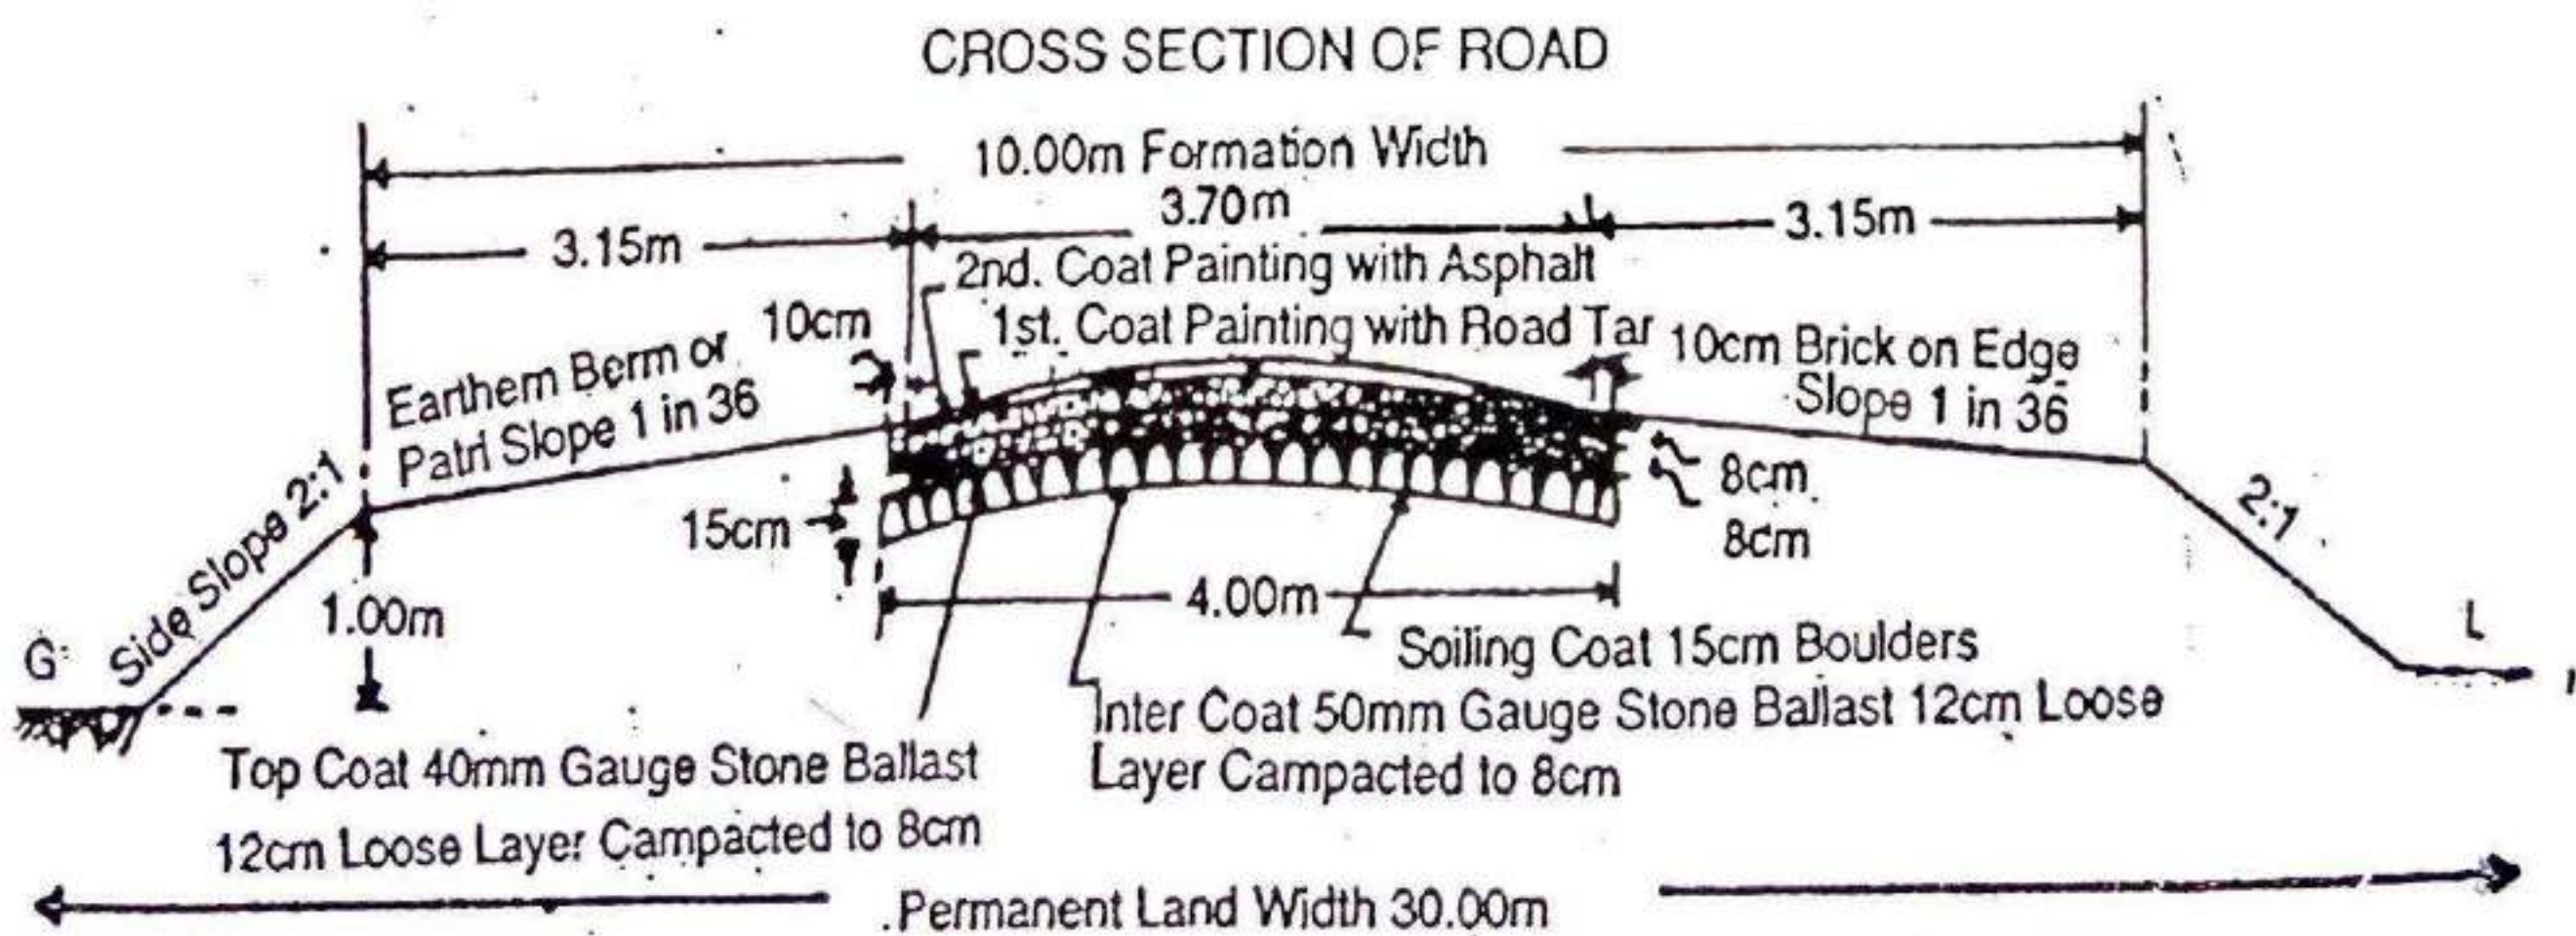

Fig. 7-23
**Example 7.**—Prepare a detailed estimate for the construction of a new State Highway for one kilometre length. The formation width of road is 10 metre, average height of bank is 1 metre and side slope 2 : 1. The metalled width is 3.70 m and three coats of metalling are to be provided as per cross section (Fig. 7.23). The surface shall be finished with two coats of painting.